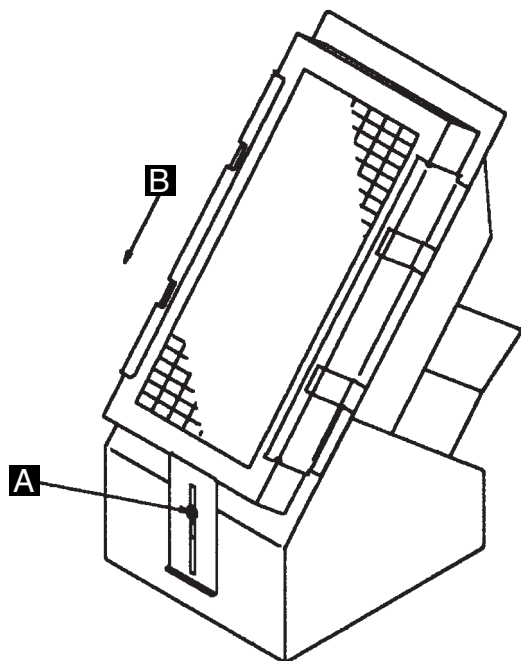

Figure 4-63. Filter Removal
3. Referring to Figure 4-63 on page 4-90: